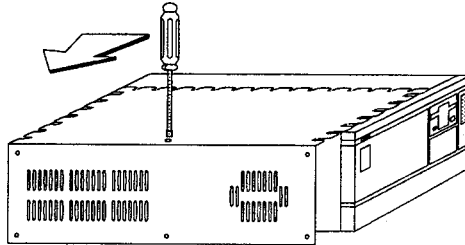

Figure 3: Removing the EMC *shield*
- 5 Some models of the A5000 have an EMC **case shield which fits** over the inner case. To remove this, unscrew the five fixing screws on the righthand side of the computer, as seen from the rear (see Figure 3: *Removing the EMC shield*).